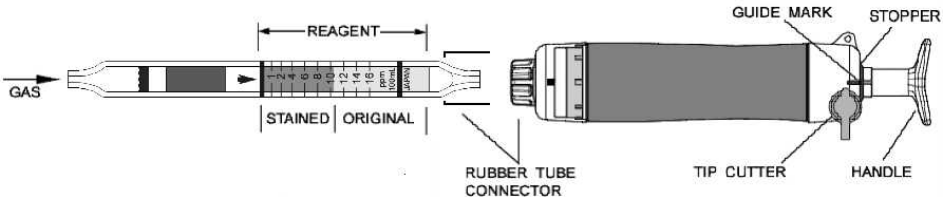

Fig.1
- ① Break both ends of the detector tube.
- ② Insert the detector tube into the aspirating pump securely as shown in Fig.1. (Arrow mark shall point to the pump.)
- ③ Align the guide marks on the shaft and stopper of the aspirating pump.
- ④ Pull the pump handle at a full stroke until it locks and wait for 1.5 minutes or until the completion of sampling is confirmed with the flow indicator of the pump. (See descriptions about the flow indicator in the instructions manual of the pump.)
- ⑤ On completion of sampling, read the scale at the maximum point of the stained layer.
- ⑥ When the concentrations are below the scale range, 4 pump strokes can be used to determine these lower concentrations. Then correct the tube reading by correction table.
- ⑦ When the concentrations are over the scale range, a 1/2 pump stroke can be used to determine these higher concentrations. Then correct the tube reading by correction table.